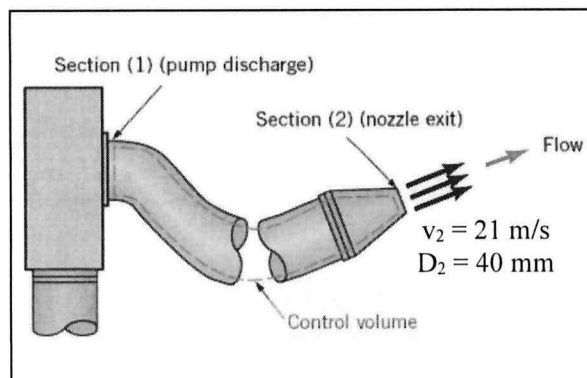

Figure Q5(b)
- (ii) State **one (1)** example of fixed control volume and **one (1)** example of deforming control volume.
- (b) Seawater is pumped in a steady condition through a conical-shaped nozzle installed at the end of a fire hose, as in **Figure Q5 (b)**. If the nozzle exit velocity is 21 m/s, determine the pumping capacity in m³/s. (4 marks)